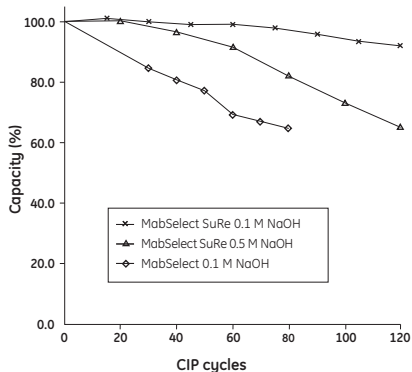
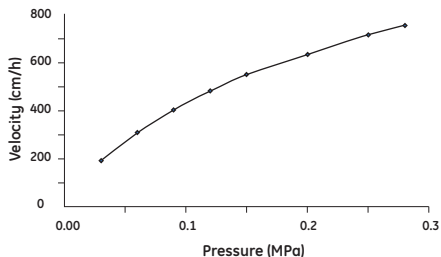

Fig 1. Dynamic binding capacity for MabSelect and MabSelect SuRe after CIP with 0.1 or 0.5 M NaOH, 15 min contact time, for 0–120 cycles.
Fig 2. Pressure/flow profile for MabSelect SuRe in a packed bed (bed height 20 cm) in BPG 300 column (i.d. 300 mm).
Figure 1 shows stability in alkaline conditions of MabSelect SuRe in terms of dynamic binding capacity. A pressure/flow curve is shown in Figure 2.
Each cycle in Figure 1 consisted of:
- ³ See Figure 1 and section 7 Cleaning-In-Place (CIP).